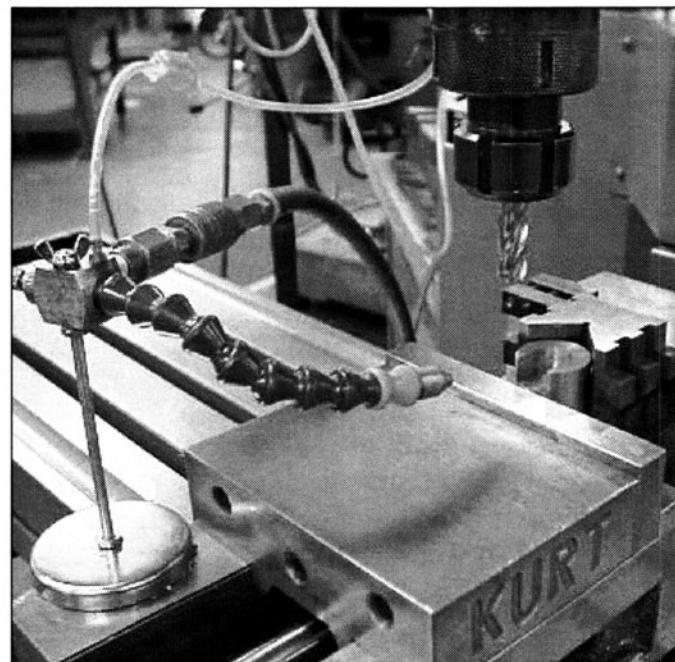

FIGURE 1-7 A mist sprayer is used to keep the end mill cool
18. *Use air mist to prolong the life of your cutter and increase stock removal rates. (See Fig. 1-7)*